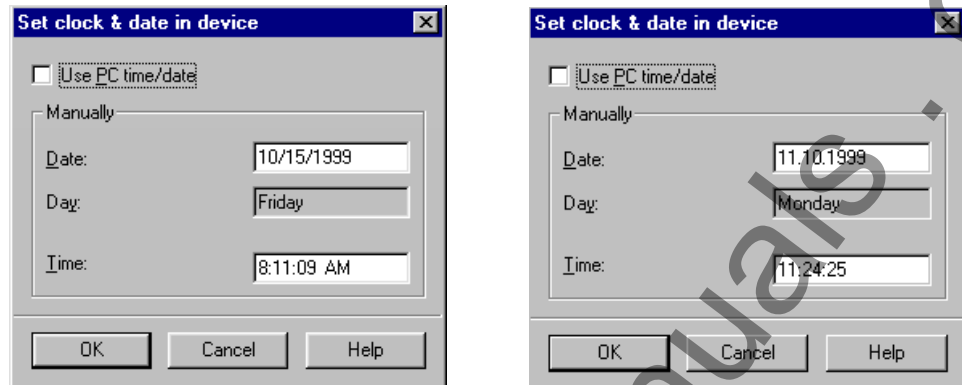

Figure 7-32 Dialog Field: **Set clock & date in device**
- Edit the input fields **Date** and **Time**. The format depends on your regional settings of the PC. See Figure 7-32.